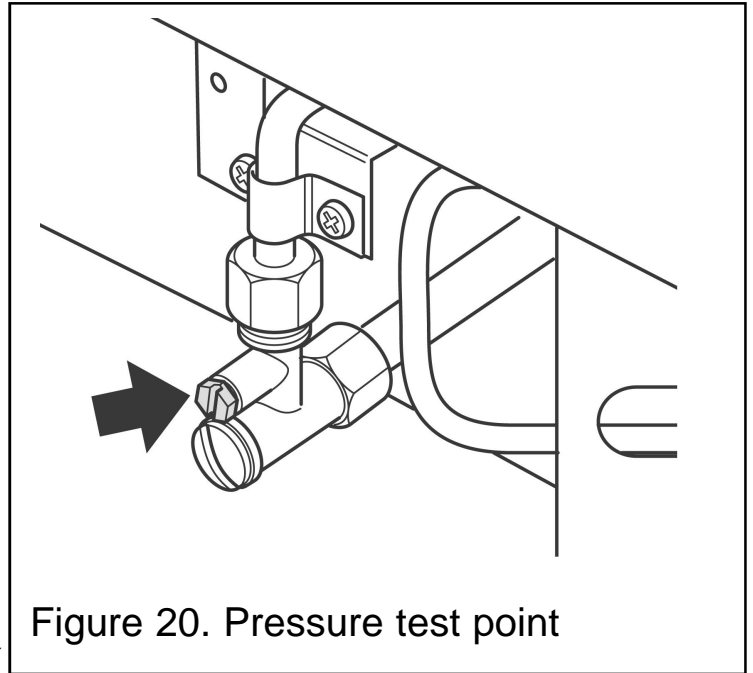

Figure 20. Pressure test point
1. Check the inlet pressure by fitting a pressure gauge at the test point. The test point is on the inlet 'T' connector. See figure 20. Check the pressure with the appliance alight and set at maximum output.